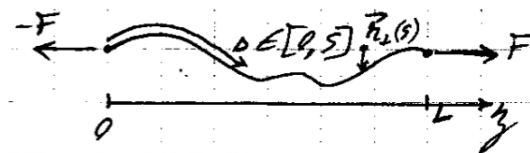

Figure 1: Parametrization of the filament. Here fluctuations take place in both the x and y directions.
Here we consider the response of a somewhat rigid polymer, *e.g.*, a DNA filament to a longitudinal pulling or pushing force [see Fig. 1, as well as the classic reference Marko & Siggia, *Macromolecules* **28**, 8759 (1995)]. This response is dominated by a spring-like elasticity that originates in the straightening out of its transverse fluctuations, as discussed in the following. We thus look for the force-extension relation of that nonlinear spring. While physically related, the three sections can be tackled independently.
where ℓ_p is a constant known as the persistence length and the total length S of the filament is also constant. The action of the outside tensile force F pictured in Fig. 1 results in an additional energy
We now study the foundation of the energies introduced in Sec. 1. We consider an inextensible filament with constant total arclength S , but whose end-to-end length L fluctuates (Fig. 1).
3.4 Using this result and assuming the filament is being pulled at both ends by a force $\mathbf{F} = \pm F\hat{\mathbf{z}}$ as in Fig. 1, demonstrate that the energy E_t associated with the tension of the filament is given by Eq. (2).